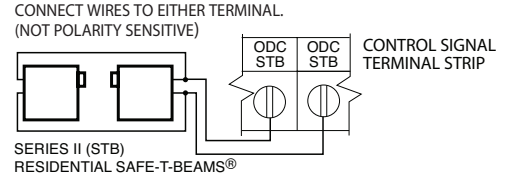

Figure 7
- 1) Monitored SERIES II (STB) photocells (P/N OPAKPE.S) can be installed as shown in **Fig. 7**. Wiring to these photocells can be connected to either terminal (they are not polarity sensitive). (**Troubleshooting in Section 8**).